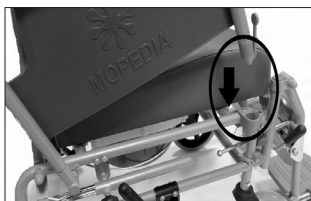

FIG. 4
- Insert the armrests in the side housings. Ensure that the armrest is attached correctly (FIG. 4).